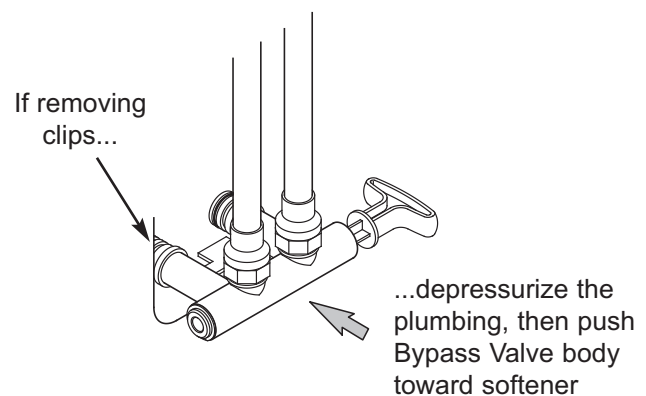

FIG. 14
7. Check for leaks around clips at softener's inlet and outlet. If a leak occurs at a clip, depressurize the plumbing (turn off the water supply and open faucets) before removing the clip. When removing clips at the softener's inlet or outlet, push the single bypass valve body toward the softener (See Figure 14). Improper removal may damage clips. Do not reinstall damaged clips.